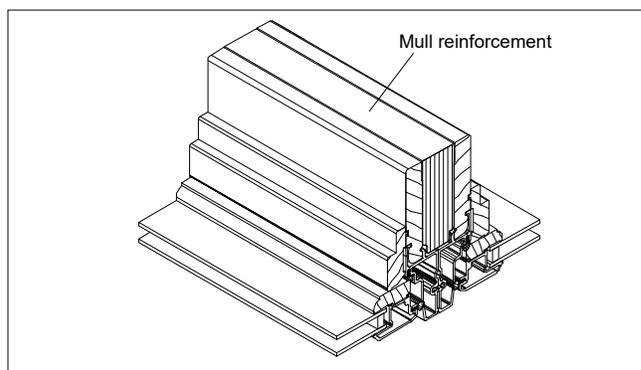

Figure 11
- Insert mullion reinforcement board between frames and fasten to interior wood frame members with 1/2" x 1/2" 16 gauge staples spaced every 4" (102). See figure 11.